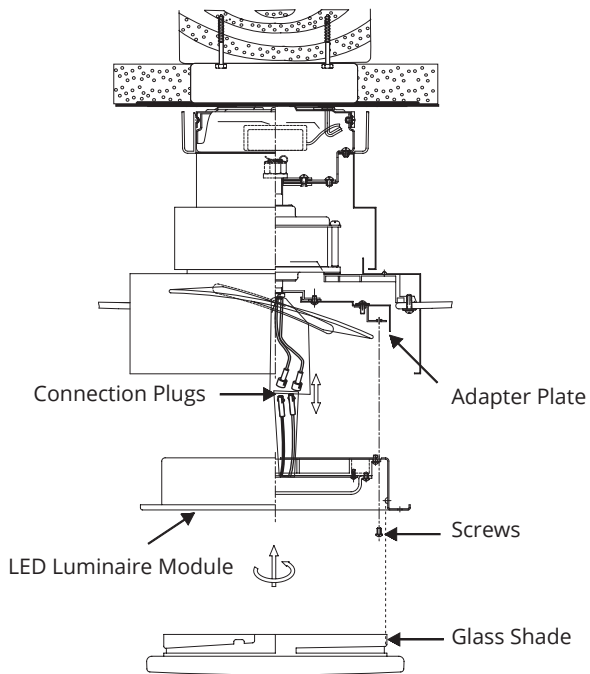

FIG. 21
2. Raise and hold the LED luminaire module close to the mounting plate and proceed to secure the wire connections. Connect the white wire connectors from the luminaire module to the white wire of the fan. Follow the same procedure with the black wire connectors (**FIG. 21**).
3. Tuck connections neatly into mounting plate, Place the luminaire module key holes over the 2 screws previously loosened from the mounting ring, turn luminaire module until it locks in place at the narrow section of the key holes. Secure by tightening the 2 screws previously loosened and the one previously removed (**FIG. 21**).